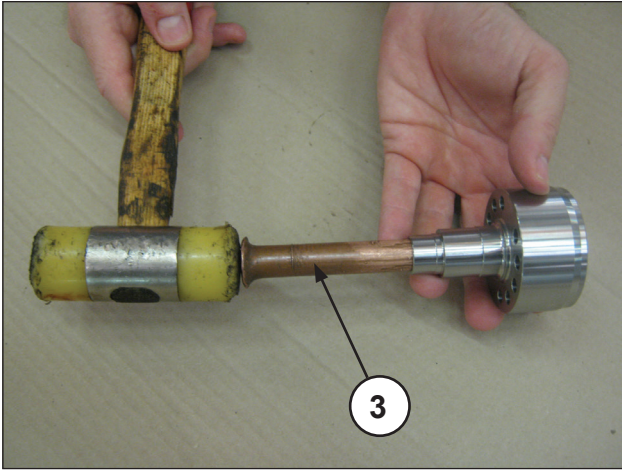
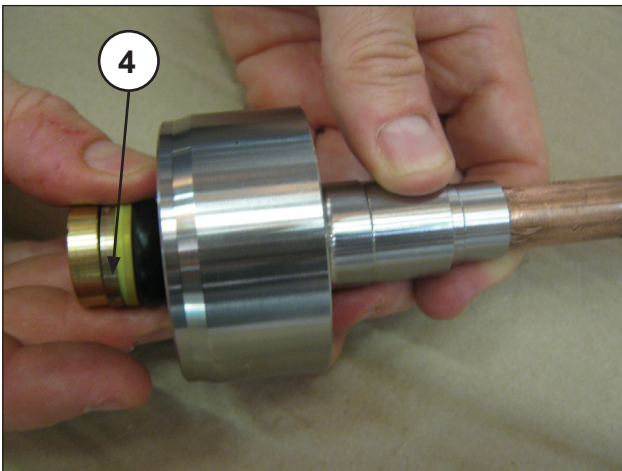
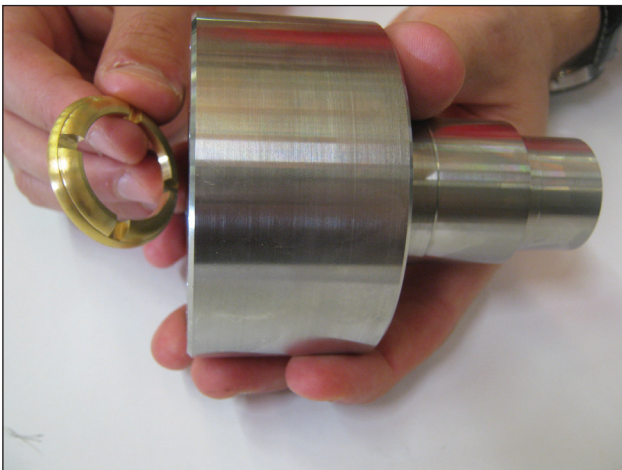

Fig. 116
Fig. 117
Fig. 118
- With separate HP seals support and a special pin (pos. ③ Fig. 116) make the H.P. (high pressure) packing come out (pos. ④ Fig. 117), finally extract the head ring (Fig. 118).
At each disassembly, the HP packing (Fig. 117, pos. ④) must be replaced.